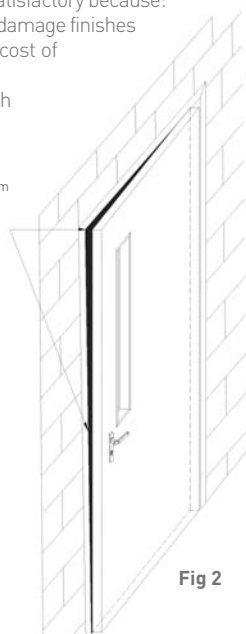

Fig 2
- By bringing the door to the almost closed position it can be seen if the frame requires 'winding in or out'. **See fig 2.**